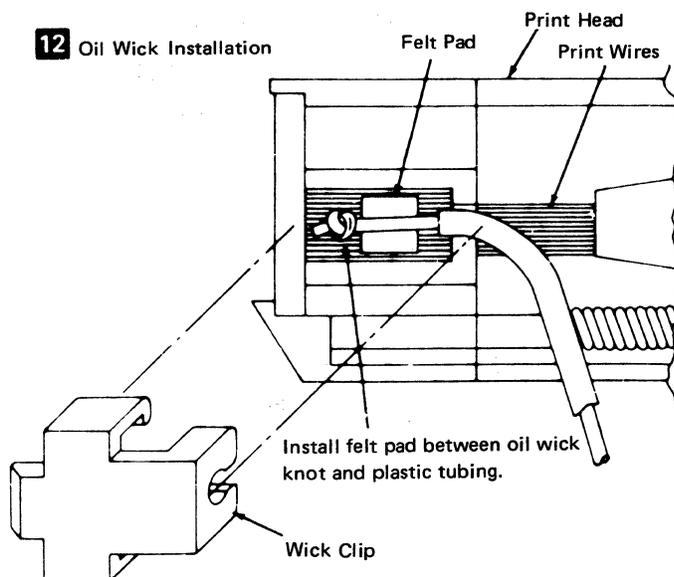

Figure 5-44. Oil Wick Installation
4. During new print head installation only, soak the two felt washers on the right bar, the bronze block, the rear slide points on the left bar, and the old oil wick with IBM No. 6 oil; install the old wick into the new print head **12** (Figure 5-44).